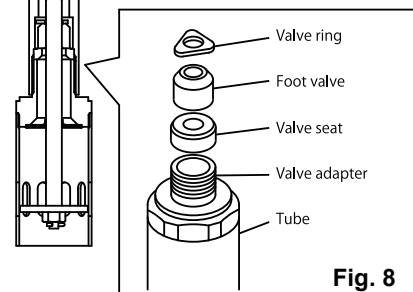

Fig. 8
- 7) Secure the lower pump cylinder in a vise. Then unscrew the valve adapter with a spanner wrench. Then remove the valve seat, foot valve and valve ring. (Fig. 8)